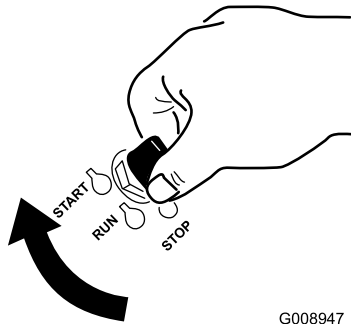

Figure 14
1. Turn the ignition key to the START position (Figure 14).